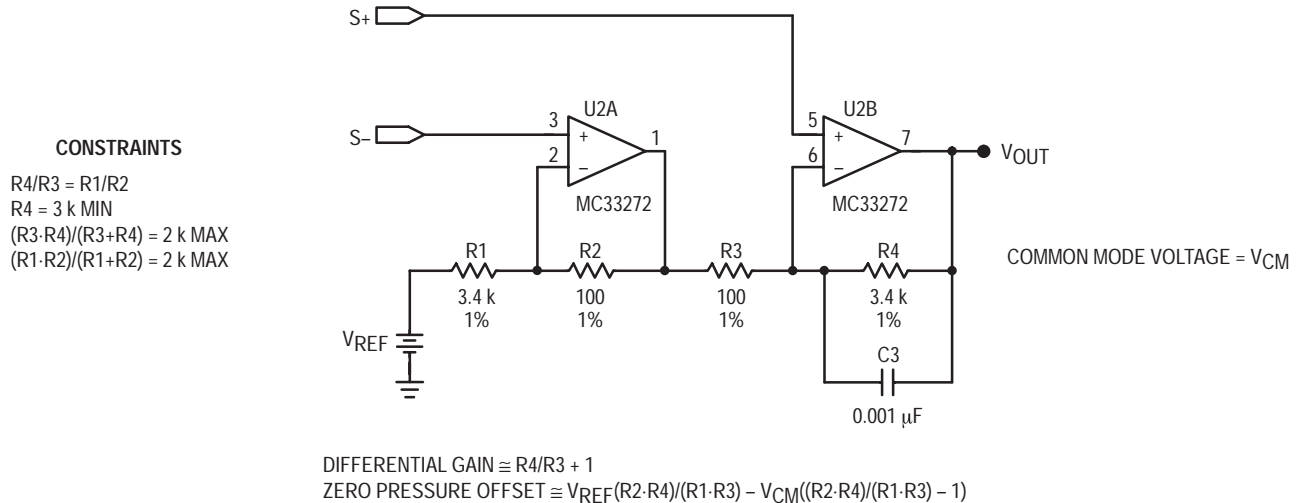

Figure 5. Amplifier — Simplified Schematic
To see how this amplifier works, let's simplify it in Figure 5, assume that the voltage source labeled V_{REF} is zero, and set the differential input voltage to zero. If the common mode voltage at sensor inputs $S+$ and $S-$ is 1.5 volts, then pin 2 of U2A and pin 6 of U2B are also at 1.5 volts. This puts 1.5 volts
The foregoing nodal analysis can be summarized by the following two equations, which are first order approximations. Equation (1) assumes that the zero pressure differential input between $S+$ and $S-$ in Figure 5 is V_{OFFSET} , and that V_{CM} is the common mode voltage at $S+$ and $S-$.
(1) ZERO PRESSURE OFFSET